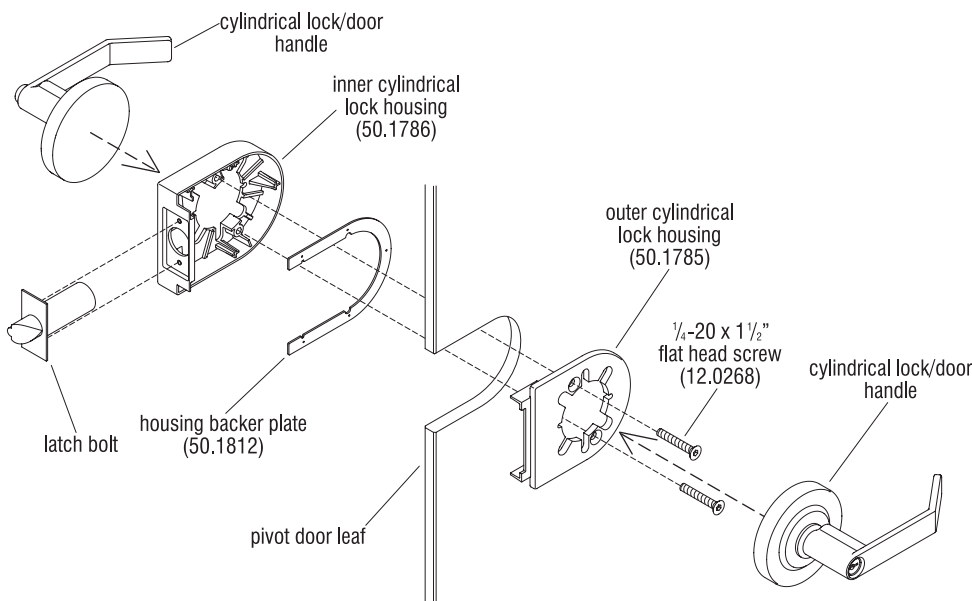

Figure 1
1. Locate the inner cylindrical lock housing (50.1786) and position a housing backer plate (50.1812) into the inner lock housing, making sure that the five round rubber buttons face out, and toward the glass leaf (Figure 1).
2. Place the inner cylindrical lock housing with backer plate into the pivot door leaf opening, against the glass leaf as illustrated for left-hand opening door (right-hand will install opposite). Position the outer cylindrical lock housing (50.1785) over the inner housing and align the mounting holes. Loosely twist in two 1/4-20 x 1 1/2" flat head screws (12.0268), check to be sure that the lock housing face is flush with the glass edge of the pivot door glass leaf, then tighten the two screws to secure (Figure 1).